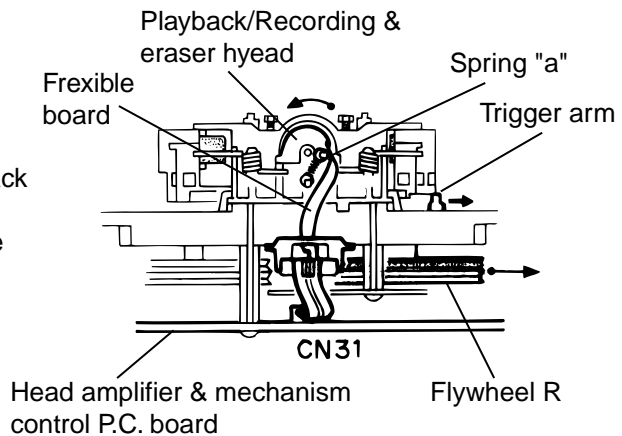

Fig. 2
2. When the flywheel R is rotated in counterclockwise direction, the Playback/Recording & Eraser head will be turned in counterclockwise direction from the position in Fig. 2 to that in Fig. 3.